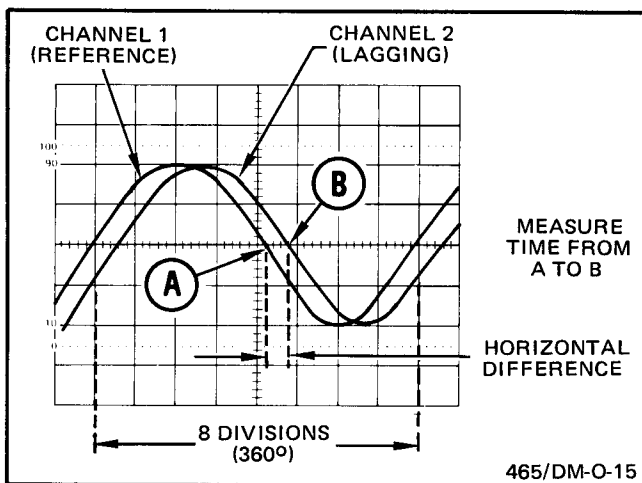

Fig. 2-7. Phase difference.
8. Turn the VAR TIME/DIV control until one cycle of the reference signal (Channel 1) occupies exactly eight divisions between the first and ninth graticule lines (see Fig. 2-7). Each division of the graticule represents 45° of the cycle ($360^\circ \div 8 \text{ divisions} = 45^\circ/\text{division}$). The sweep rate can be stated in terms of degrees as 45°/division.
Assume a horizontal difference of 0.6 division with a sweep rate of 45°/division as shown in Fig. 2-7.